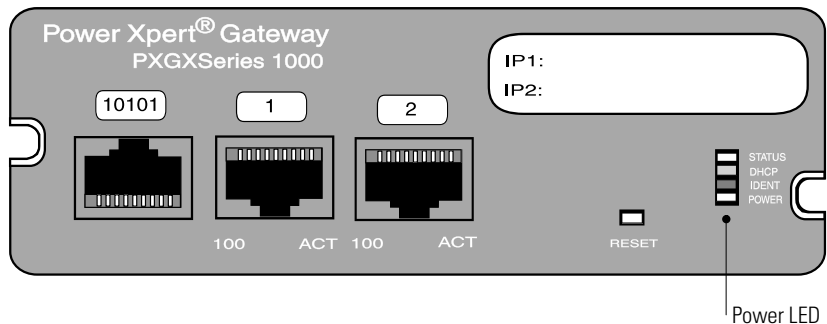

Figure 13. Power LED on the Power Xpert Gateway Series 1000 Card
20. Verify that the Power LED on the Power Xpert Gateway Series 1000 Card illuminates (see Figure 13).